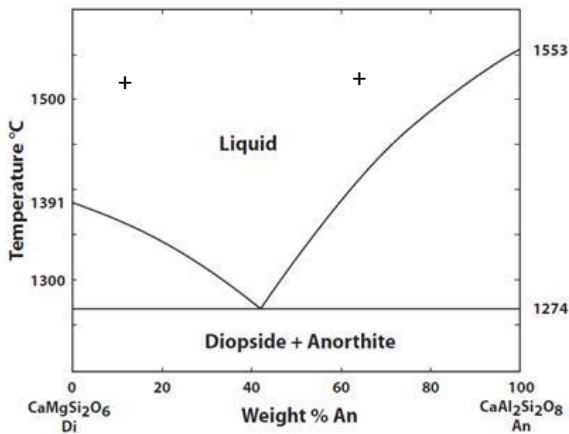

Figure 4: Diopside + Anorthite Phases (SERC)
We will investigate the range of crystal compositions that might result from the reaction graphs given in Figures 4 and 5. Based on information provided in class or available on the web, use the curves below to trace the cooling histories and determine the percent composition of liquid or crystals formed from the specified initial compositions and temperatures.
1. Describe the equilibrium conditions shown in Figure 4.